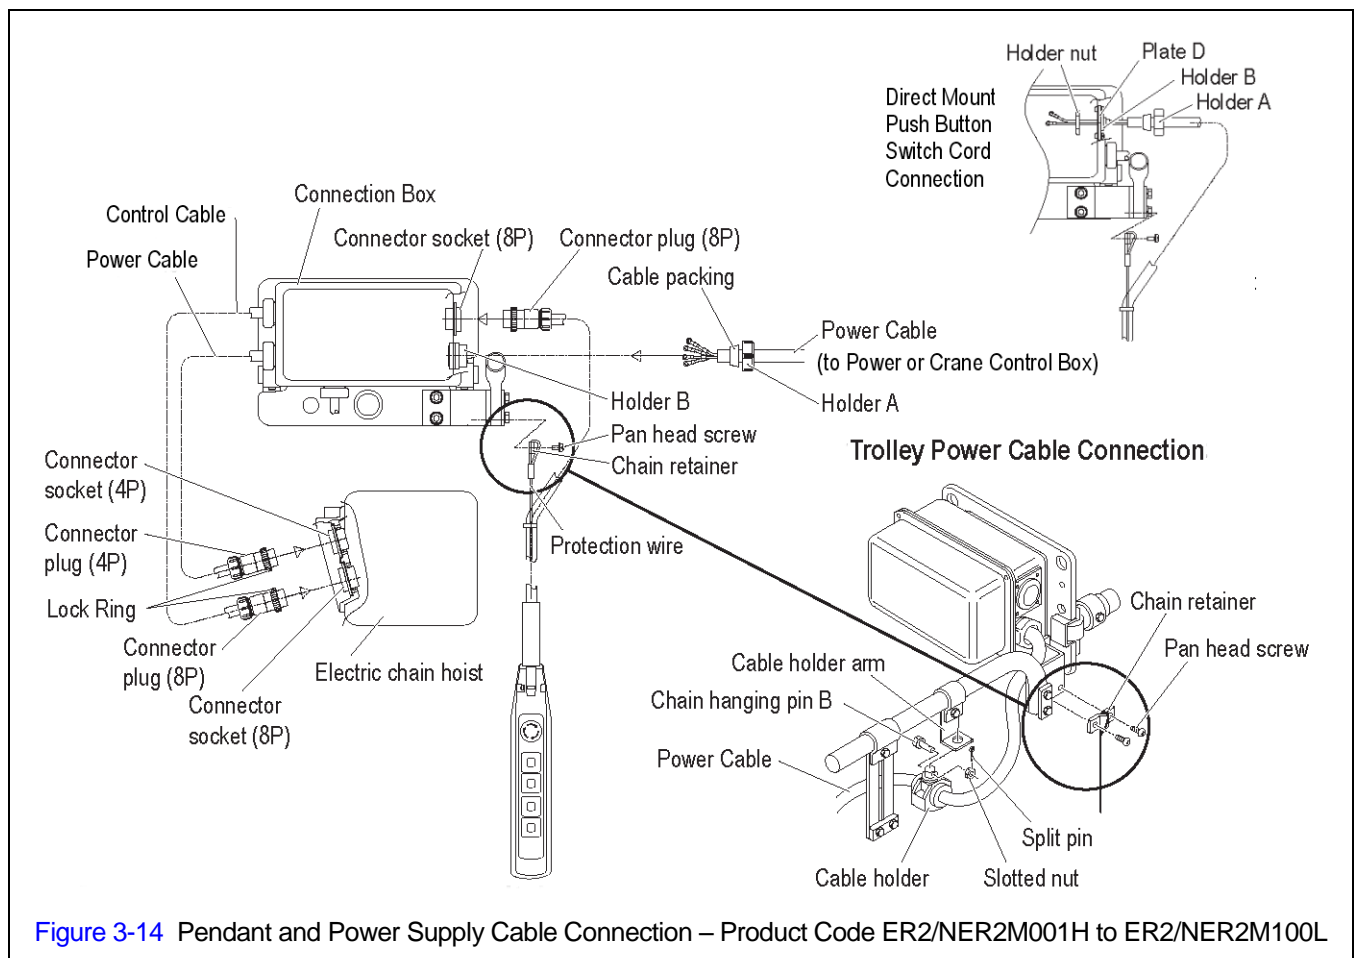

Figure 3-14 Pendant and Power Supply Cable Connection – Product Code ER2/NER2M001H to ER2/NER2M100L
- 1) Refer to Figure 3-14 or 3-15 depending on the product code of the trolley/hoist.